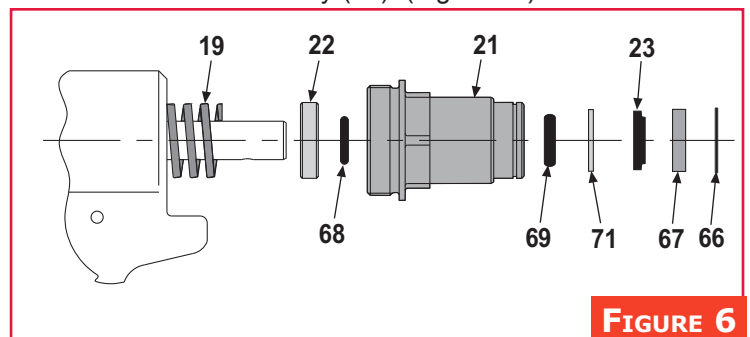

FIGURE 6
3. Remove the adapter (64) and tube/slide assy (70).
4. Remove the end cap (21) and spring (19). (Figure 6)
5. Remove the spacer (22) and O-ring (68) from the spring side of the end cap.
6. Remove the retaining ring (66), wiper housing (67), wiper seal (23), washer (71) and O-ring (69) from the bottle side of the end cap.
1. Assemble adapter and tube/slide assembly (70) and new O-rings (65).
2. From bottle side of end cap (21) install O-ring (69), washer (71), wiper seal (23), wiper housing (67) and retaining ring (66) as shown in Figure 6.
3. From spring side of end cap install O-ring (68), spacer (22), and spring (19). (Figure 6) Screw the entire assembly into the head; tighten.